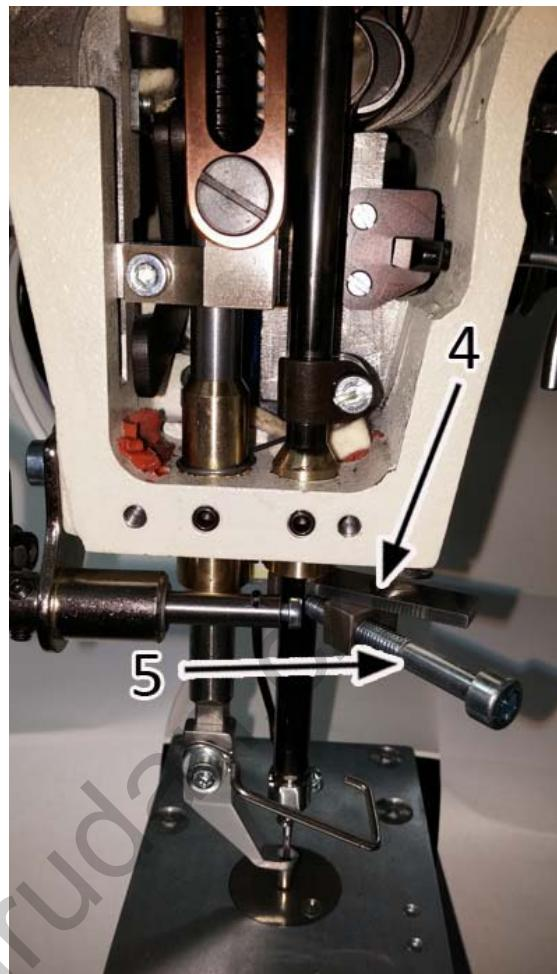

Fig. 19
The hook in connection with the needle must be set so that the edge is in the position of lower relief of needle when the hook is taking the loop of upper thread. Figure 19, 21, 22, 23.
- A. Set the needle into the lower reversal point by turning the hand wheel. Put the stop sleeve (2) on needle bar and insert the scale (4) between stop sleeve and bushing (3), Figure 19. Tighten the screw (5) so that there is no play between the bushing, stop sleeve and scale. The thickness of the scale for rotary hook is 2mm for medium and 2.5mm for heavy materials.
- B. Remove the scale (4) and pull the scale (2) onto the bushing (3) by turning the hand wheel.